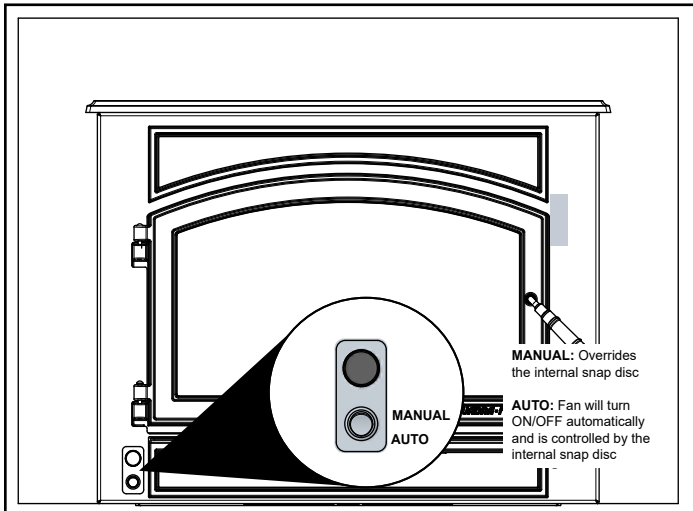

Figure 2.5
1. The blower will turn on/off automatically when set to AUTO (**Figure 2.5**).